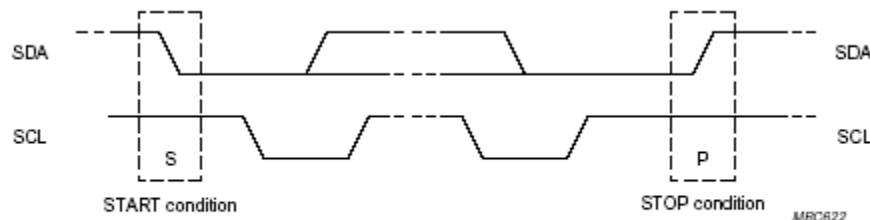

Fig.5 START and STOP conditions.
Within the procedure of the I2C-bus, unique situations arise, which are defined as START (S) and STOP (P) conditions (see Fig.5).